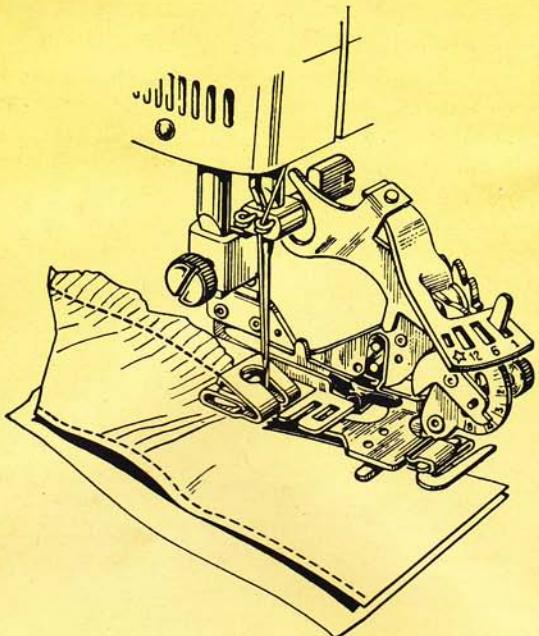

Fig. 55
- 3) Proceed as for plain ruffling (gathering), Fig. 55 shows how to make a ruffle and to attach it in one operation.